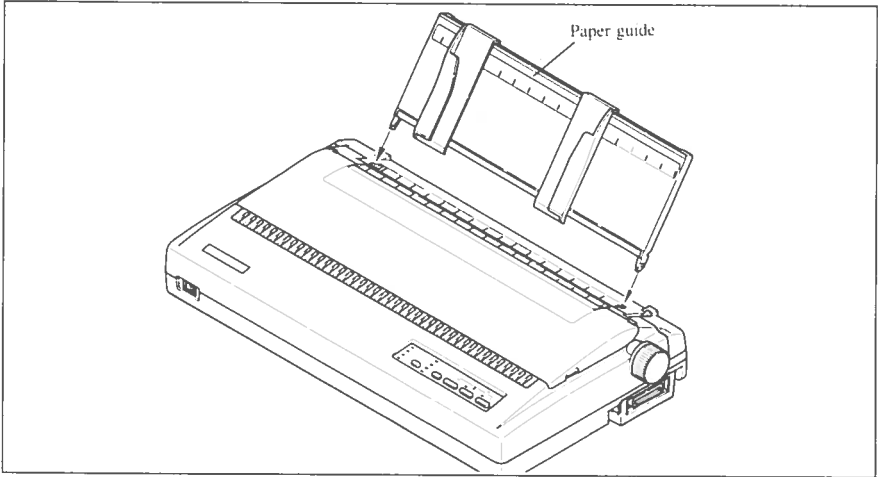

Figure 2-8. Install the paper guide.
1. Insert the two slots on either side of the paper guide into the two tabs on the rear cover, as shown in Figure 2-8.